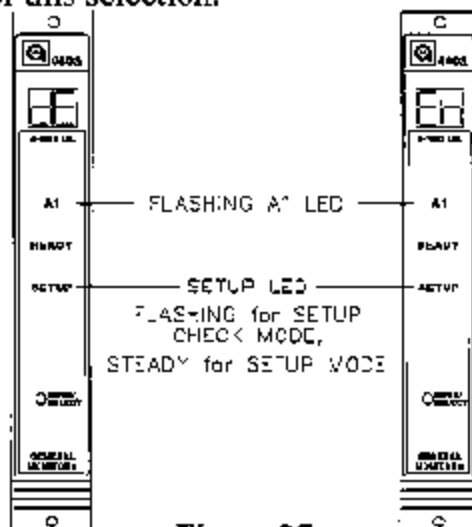

Figure 27
- Next, the **A1** LED will be flashing while the Energized/De-energized option is displayed (figure 27). The display will indicate the current selection, (**En** or **dE**). De-Energized is the factory default for this selection.